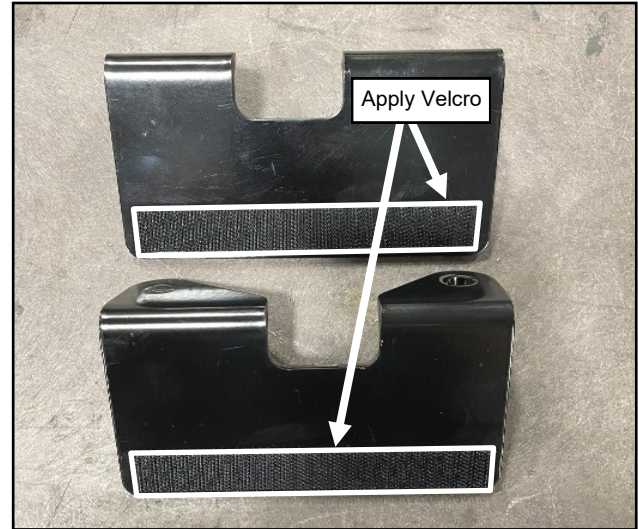

Fig. 1.21 (Install Velcro to Arm Restrictors)
1.21 Apply 5/8" wide P.S.A. Velcro to the bottom edge of Arm Restrictors. See Fig. 1.21.